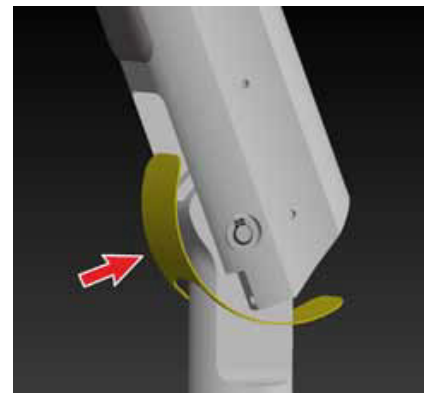

Figure 58
- Remove all the four scissor-arm end caps by opening the caps. Do not remove the rubber part shown in Figure 58 .